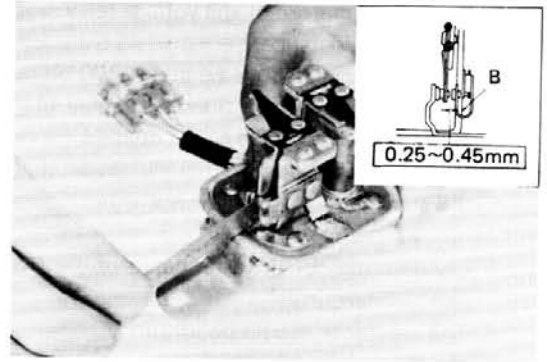

Fig. 5-35 Checking Point Gap
2. Check the point gap with the feeler gauge. This point gap should be 0.25 to 0.45 mm. If necessary, adjust the gap by bending the high speed point holder "B" as shown in Fig. 5-35.